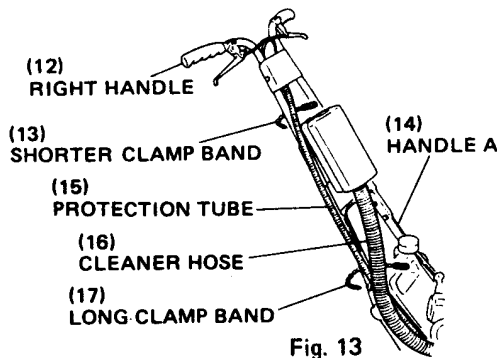

Fig. 13
- d. Clamp the cleaner hose and the protection tube onto handle A using the long clamp. Hook the O-ring with the hose stay on recoil starter. Then clamp the protection tube onto the handle right above the air cleaner with the shorter clamp band. (Fig. 13, 18)